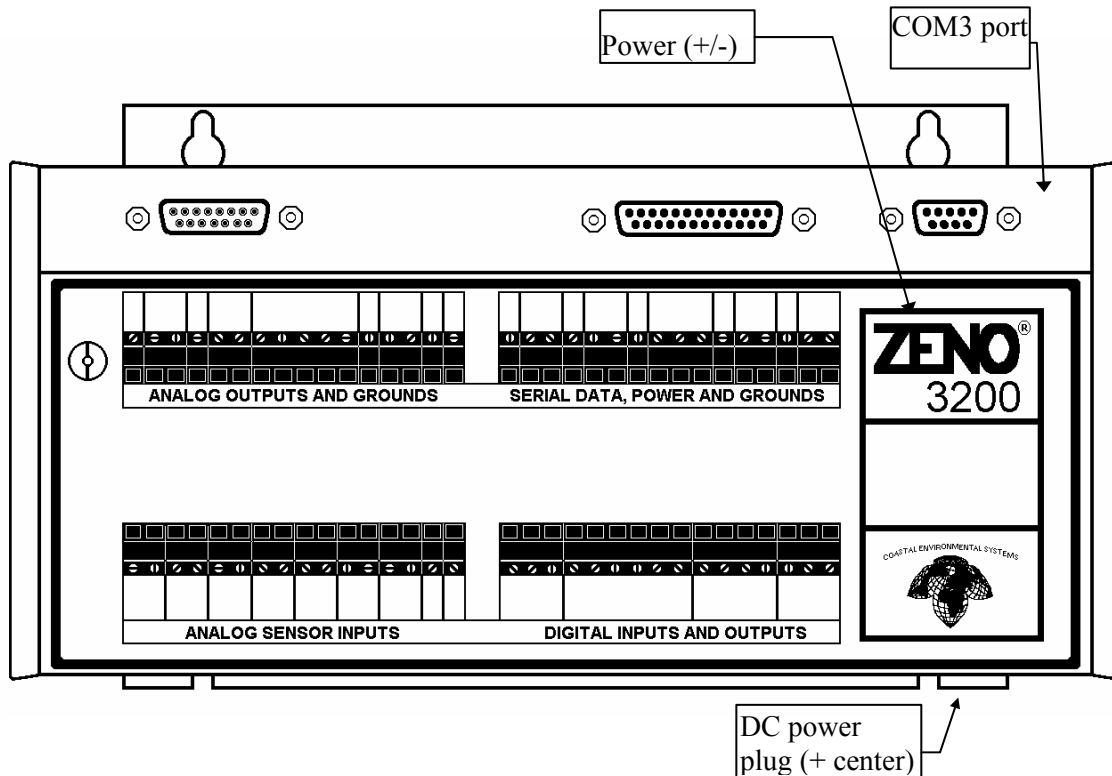

Figure 2-3. ZENO[®]-3200 Power Connections & Connecting to COM3.
4. The ZENO[®]-3200 requires a power source of 10 to 16 VDC. You can either apply power to the ZENO[®]-3200 using the 12 VDC power adapter provided by Coastal Environmental Systems, or you can connect to your own 10 to 16 VDC power supply. If you are using your own power supply, connect power to the points labeled "POWER" on the terminal strip labeled "SERIAL DATA, POWER AND GROUNDS" on top of the ZENO[®]-3200. See Figure 2-3.